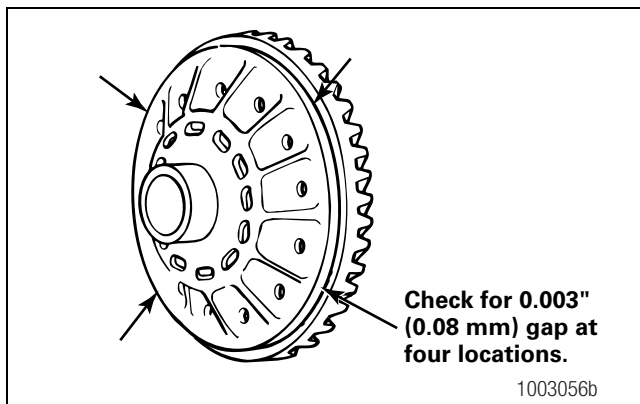

Figure 5.36
7. Use a 0.003-inch (0.08 mm) feeler gauge to check for gaps between the back surface of the ring gear and the case flange. Check for gaps at four points around the assembly. Figure 5.36.